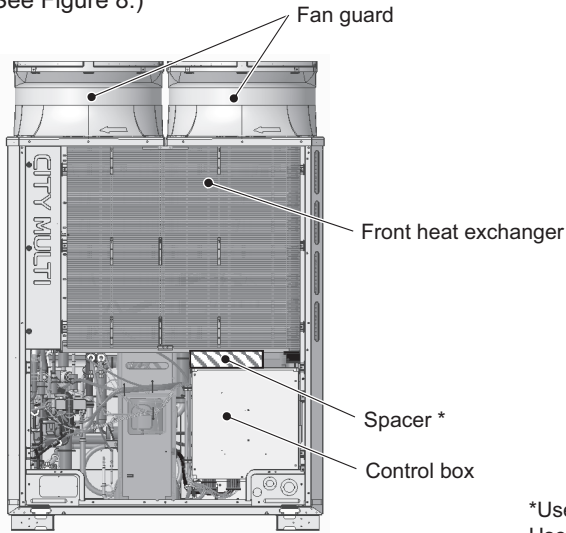
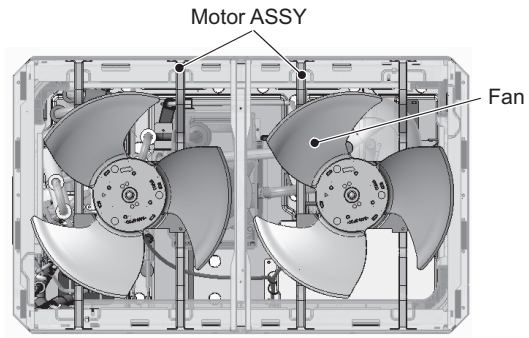

Figure 7
Figure 8
- (9) Remove the fan guard by unscrewing the 12 screws. (See Figure 7.)
- (10) Insert a spacer between the control box and the heat exchanger.
- (11) Remove the motor ASSY by unscrewing the 16 screws, using caution not to damage the motor wiring or the fan. (See Figure 8.)